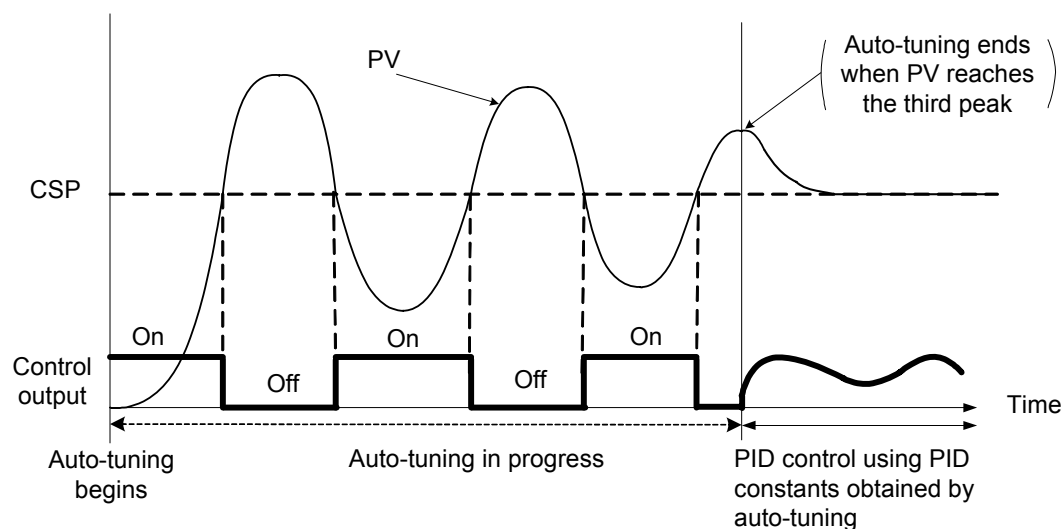

Figure C5.2 Auto-tuning Function
To activate auto-tuning, set the Start Auto-tuning (AT) parameter to any integer from 1 to 5. After auto-tuning begins, the output is made to turn off or turn on whenever the PV passes through the set point (see Section C5.2.1, “Tuning Points and Stored PID Number”). When the PV reaches the third peak, as shown in Figure C5.2, the PID constants are calculated, stored and auto-tuning ends.